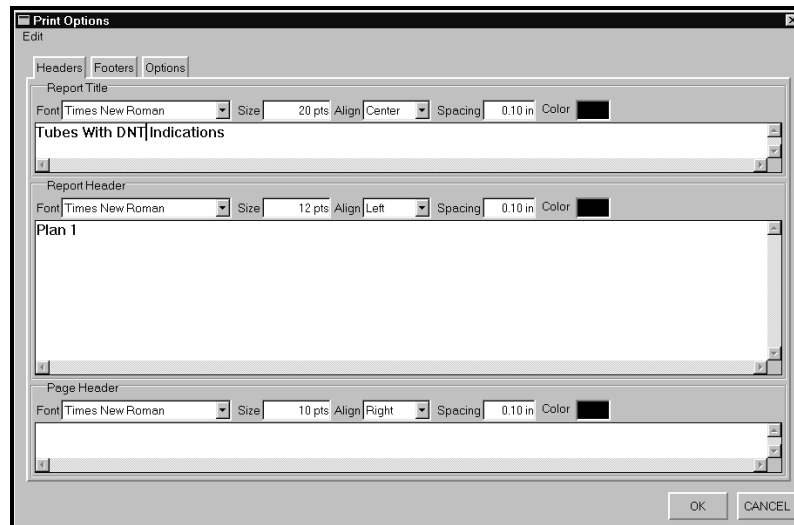

Figure 5-12. Report Headers Tab
39. Under the headers tab you may type what ever you like as title or page header. Figure 5-12 shows what was typed for the tutorial.